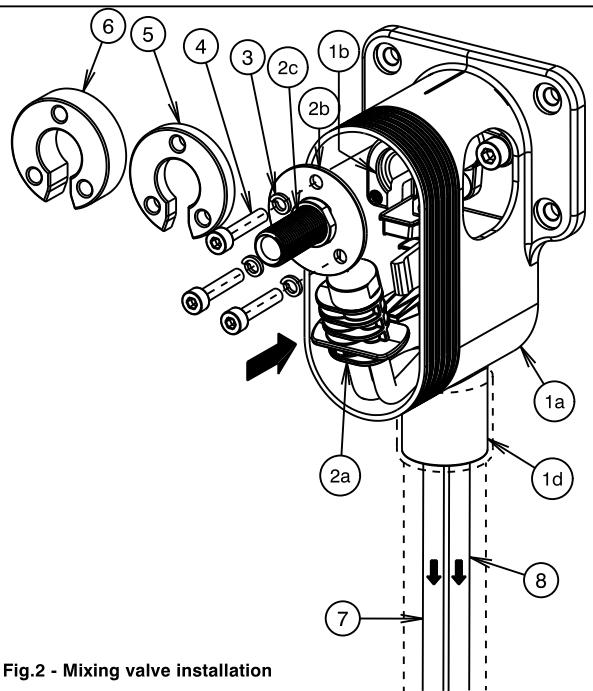

Fig.2 - Mixing valve installation
- ii) Check that the front face of the mounting elbow(1b) is at least 5mm from the front of finished wall/tile face (See **Fig. 3**). 5mm spacer (5) & 10mm spacer (6) are provided to bring the outlet forwards if required. Spacers (5) or (6) can be placed between item (2b) and body (1b), see **Fig. 2**.
- iii) Insert the soap & air tubes (7) & (8) into the housing (1a) and pass them through the hole of connection point (1a) as shown in **(Fig. 2)**. Wire draw/fish tape can be used by carefully tying it to the tubes and pass through the conduits (not supplied) until the tubes come out at the open end. Do not pull the soap tubes out forcefully. Place the mixing valve (2a) inside the housing as shown in **(Fig. 2 & 3)**.
- iv) Fit the spring washers (3) onto the 3 screws (4).
- v) Align the 3 holes on the flange (2b) with the holes on mounting body (1b), insert screw (4) along with washer (3) through the flange (2b) and into the threaded hole in body (1b). Then fit the remaining screws in remaining 2 holes in similar manner and tighten using 3mm allen key.